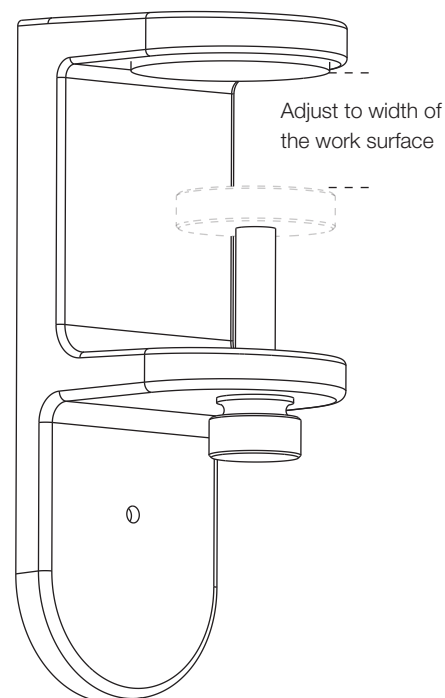

Fig. 2
2. Install a thumb screw (E) into the bottom flange of each clamp bracket (C/D), allow tip of thumb screw to project past upper surface of bottom flange by at least 1/4". Tip: You can speed up installation if you tailor this thumb screw projection distance for the top thickness. (Fig. 2)